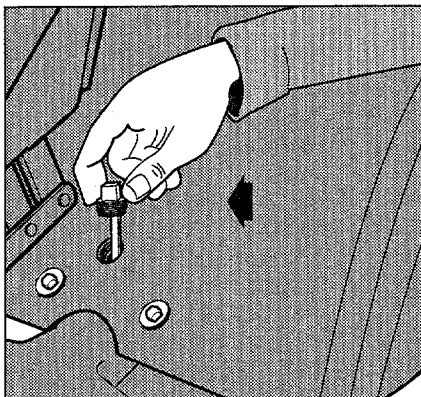

**Figure 5-7: Remove oil level check plug. Gear oil should seep out if the level is sufficient.**
2. Use a 3/8" wrench to remove the oil level check plug on the left side of the transmission housing (Figure 5-7).
3. Slowly pour gear oil through a clean funnel into the transmission. Stop when gear oil begins to flow from the oil level check hole on the left side of the transmission (B, Figure 5-7).
2. Remove the oil level check plug (Figure 5-7) with a 3/8" wrench. This vents the transmission for faster oil draining.